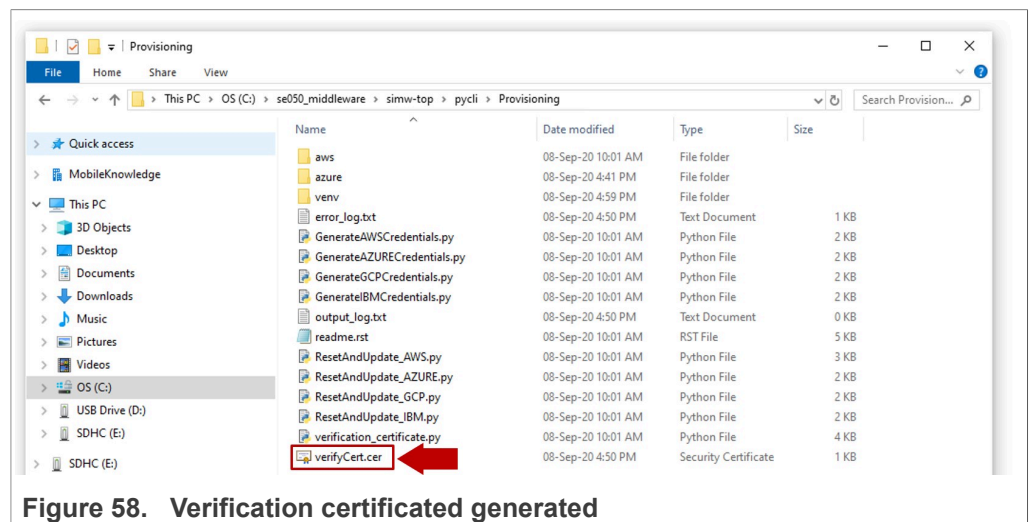

Figure 58. Verification certificated generated
- Make sure a file called `verifyCert.cer` has been generated in `simw-top\pycli\Provisioning` folder, as shown in Figure 58: